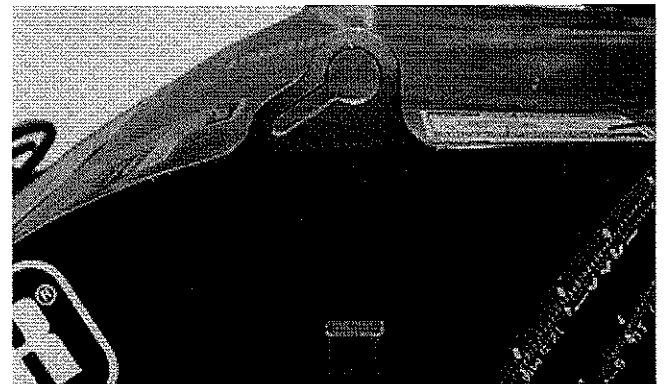

figure 23
10. Place the chain in the keyhole slot (figure 23) on top of the hood. The chain end goes to the outside. If desired, place the chain end inside the adjustment tube to reduce rattling.